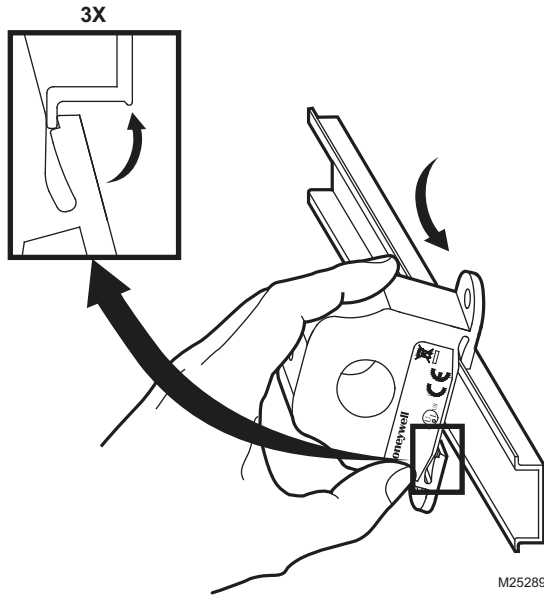

Fig. 3. Sensor placed on DIN rail
The current sensors may be mounted in any position using the two (2) #8 x 3/4 in (19 mm) Tek screws and the mounting holes in the base or snapped directly on to the 1-3/8 in. (35 mm) DIN rail (See Figures 3 and 4). Leave a minimum distance of 1 in. (25 mm) between the current sensor and any other magnetic devices such as contactors and transformers.